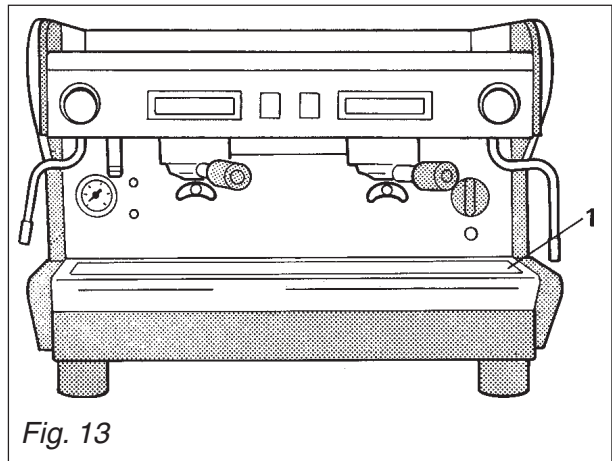

Fig. 13
- Remove the cup rack 1 (Fig.13), slide out the drip tray and clean them both.
- Check and clean the drainage pump 1 (Fig.13), removing any sludge with the help of a spoon.